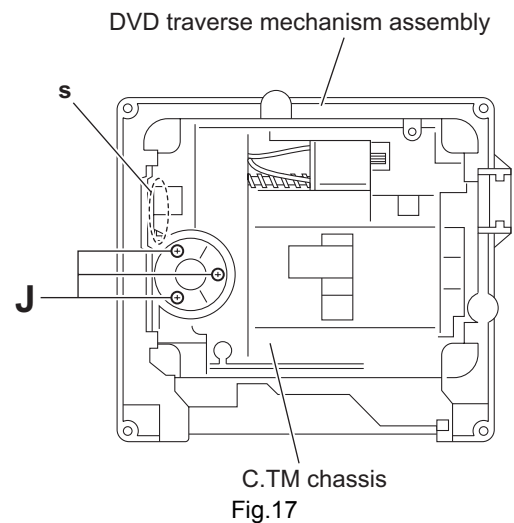

Fig.17
- (2) From the bottom side of the DVD traverse mechanism assembly, remove the three screws **J** attaching the spindle motor board. (See Fig.17.)
When attaching the spindle motor board, let the card wire through the hole **s** on the C.TM chassis. (See Fig.17.)